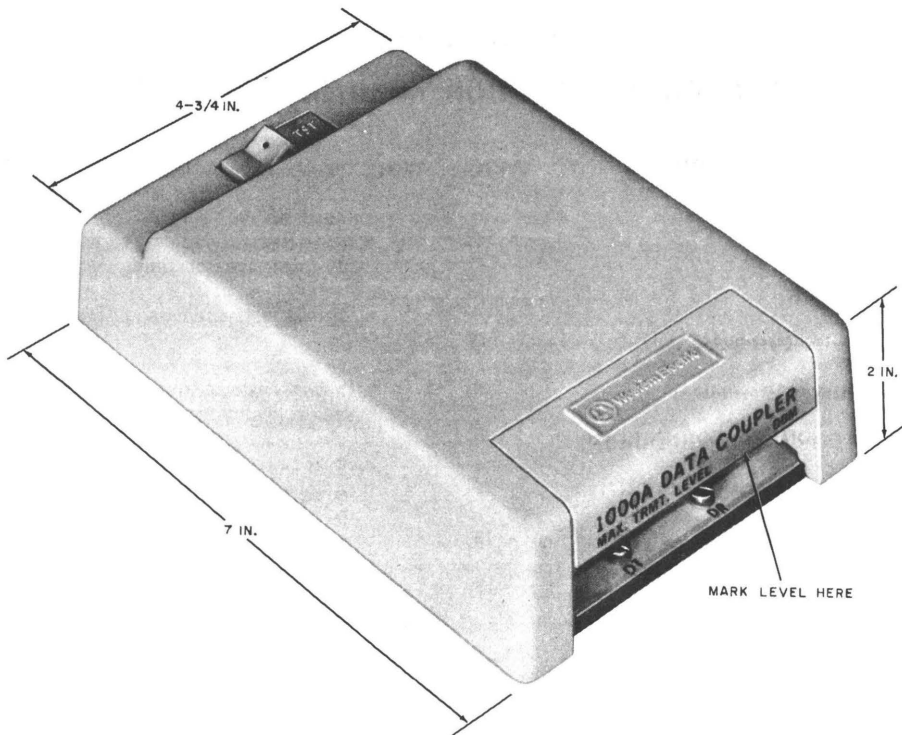

Fig. 1— ♦ 1000A Data Coupler ♦
1.01 This section contains information required for installing and maintaining 1000A data coupler (Fig. 1). Detailed information is contained in SD- and CD-1D205-01.
3.14 The maximum allowable customer signal level is determined by the appropriate column in Table B. Record the value with pencil or ball point pen on the cover label of the coupler (Fig. 1). Using the example in 3.12, “-5” would be marked on the label.